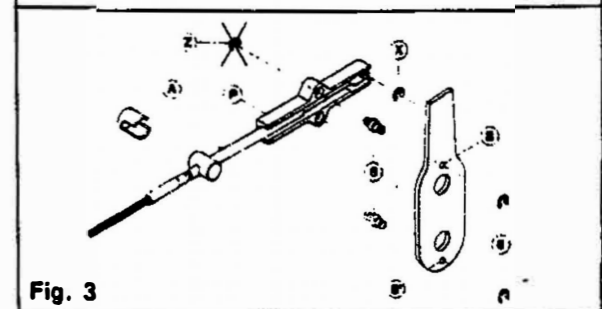

Fig. 3
**INSTALLATION WITH CONNECTION KIT K23 (FIG. 3)**
**MONTAGE AVEC KIT DE CONNEXION K23 (FIG. 3)**